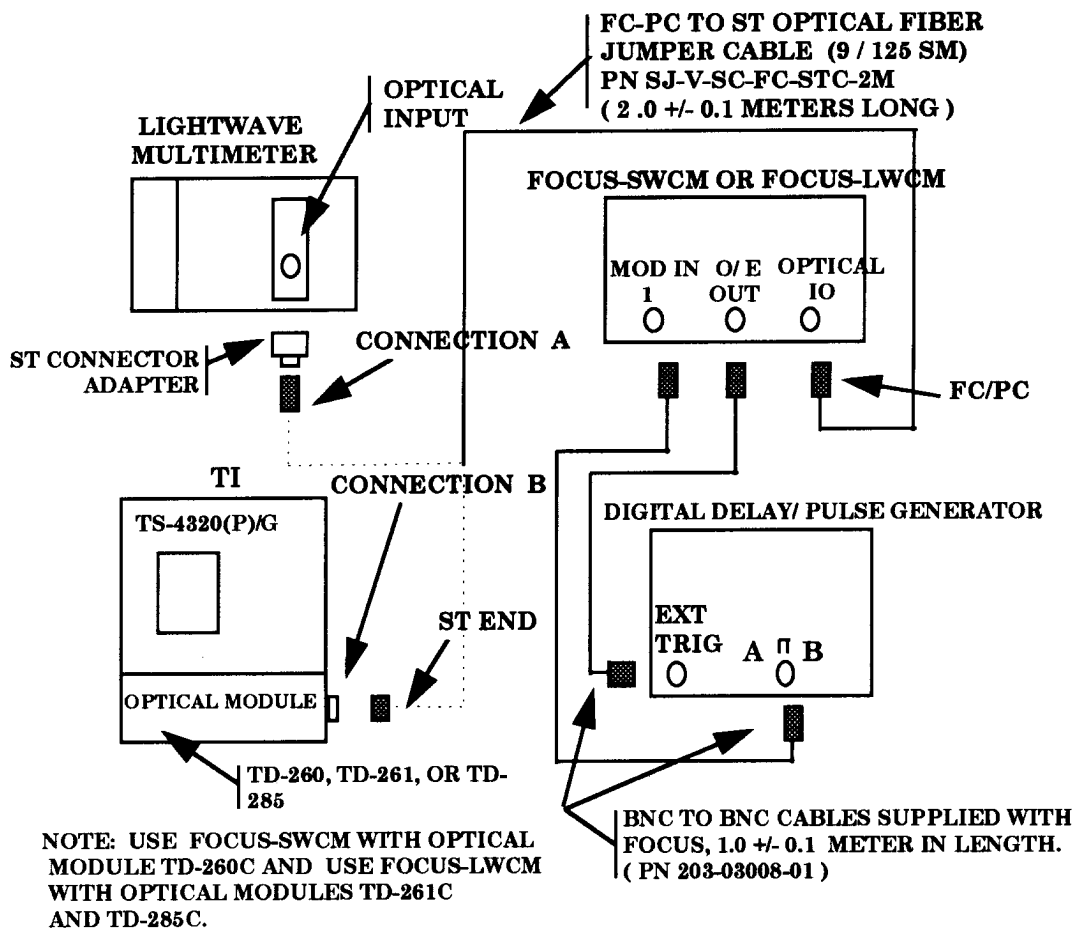

Figure 3. Horizontal scale error - equipment setup.
c. Connect equipment as shown in figure 3, CONNECTION A. Connect optical fiber jumper cable from FOCUS-SWCM OPTICAL I-O to ST CONNECTOR ADAPTER attached to OPTICAL INPUT of LIGHTWAVE MULTIMETER (fig. 3).
FOCUS standards which were used to measure T_{ID} as reported on FOCUS Insertion Delay Measurement Worksheet must not be interchanged with other FOCUS standards nor optical fiber jumper cable lengths changed from those shown in figure 3. Doing this may change time insertion delay and affect software calculations. If different optical fiber jumper cable lengths must be used, a 1.0 meter change in length is equal to approximately 10 nanoseconds change in insertion delay.
h. Carefully remove optical fiber jumper cable connector from lightwave multimeter and connect to fiber connector of TD-260C optical module (located on right-hand side under black rubber dust boot), CONNECTION B (fig. 3).